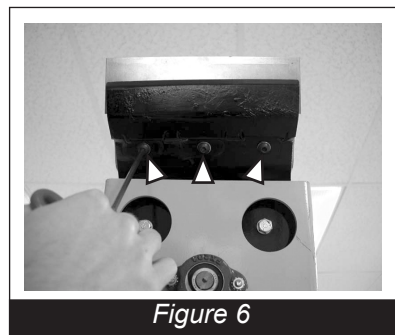

Figure 6
- Unplug machine from power source. Use the appropriate tools & techniques to remove the blade to minimize the chance of the wrench slipping. Tilt machine back on handle to access hardware on bottom of striker plate (Figure 6).
- Loosen but do not remove the three bolts shown in (Figure 6) from the bottom side of the striker plate.